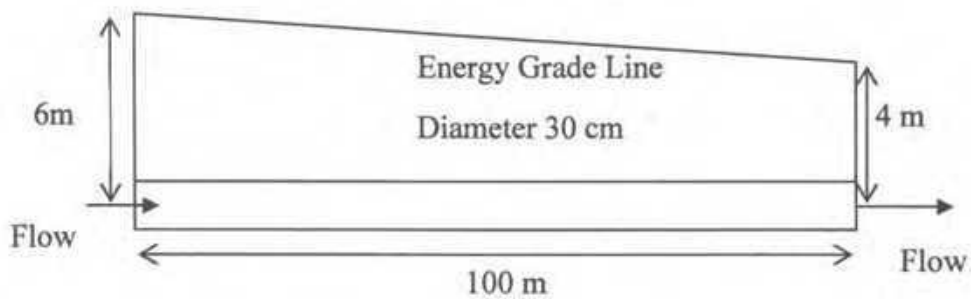

Figure 10
c. Water is flowing through a pipe. The energy grade line is shown in Figure 10. 7